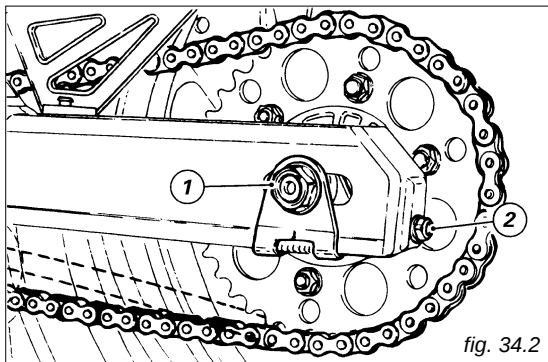

fig. 34.2
To adjust chain tension, slacken the nut (1, fig. 34.2) of the wheel spindle. Then tighten similarly the screw (2) clockwise on both sides of the swing arm to increase or reduce chain tension. If you are slackening the chain, you will have to push the wheel forward.